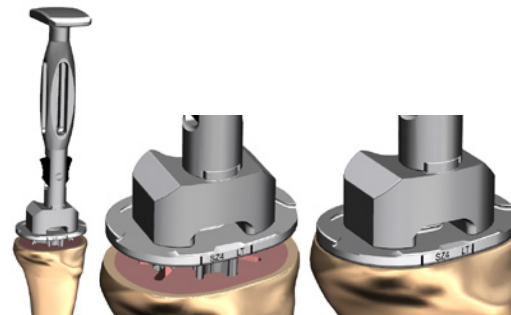

Figure 63
- 4 Attach the modular handle to the modular universal tibia impactor. Continue impaction until the tibia implant is fully seated (Figure 63).